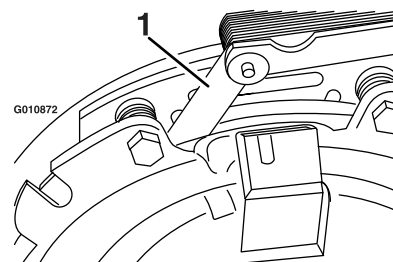

**Figure 67**
- B. Using needle-nose pliers, or by hand, hold the tab and remove the shim (Figure 67).
Remove any buildup of grass, dirt, or other debris from the engine screen. This helps ensure adequate cooling and correct engine speed and reduces the possibility of overheating and mechanical damage to the engine (Figure 67).